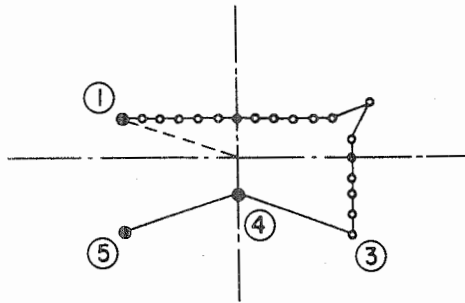

Fig. 4
Step 16 Move the needle using the **Forward** and **Backward** keys, and confirm that the needle entry point has been added as illustrated in Fig. 4.